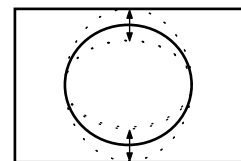

Fig. 3
- d) Adjust the vertical size to obtain picture overscan (Fig.3).